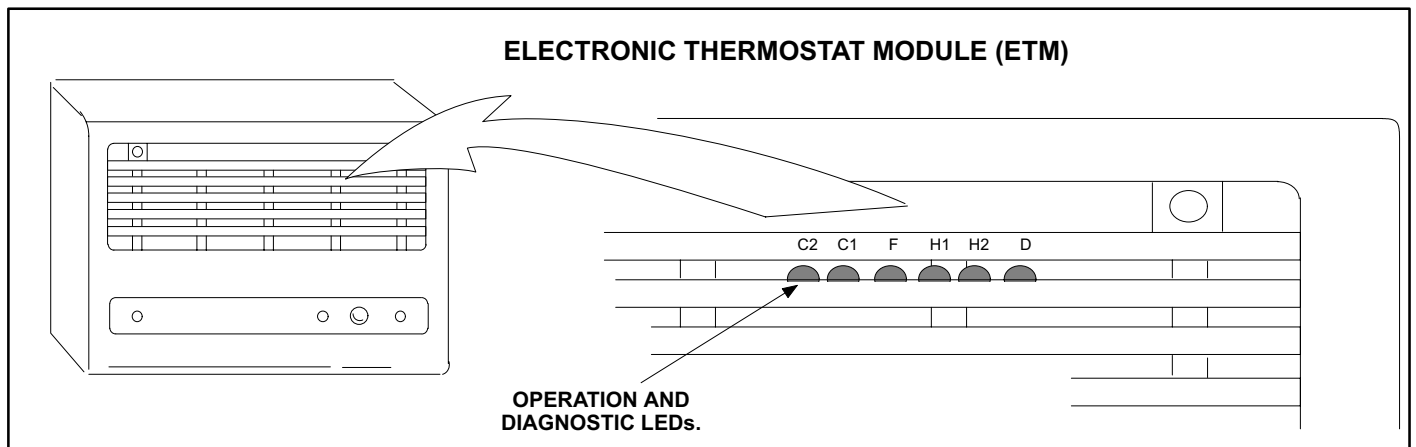
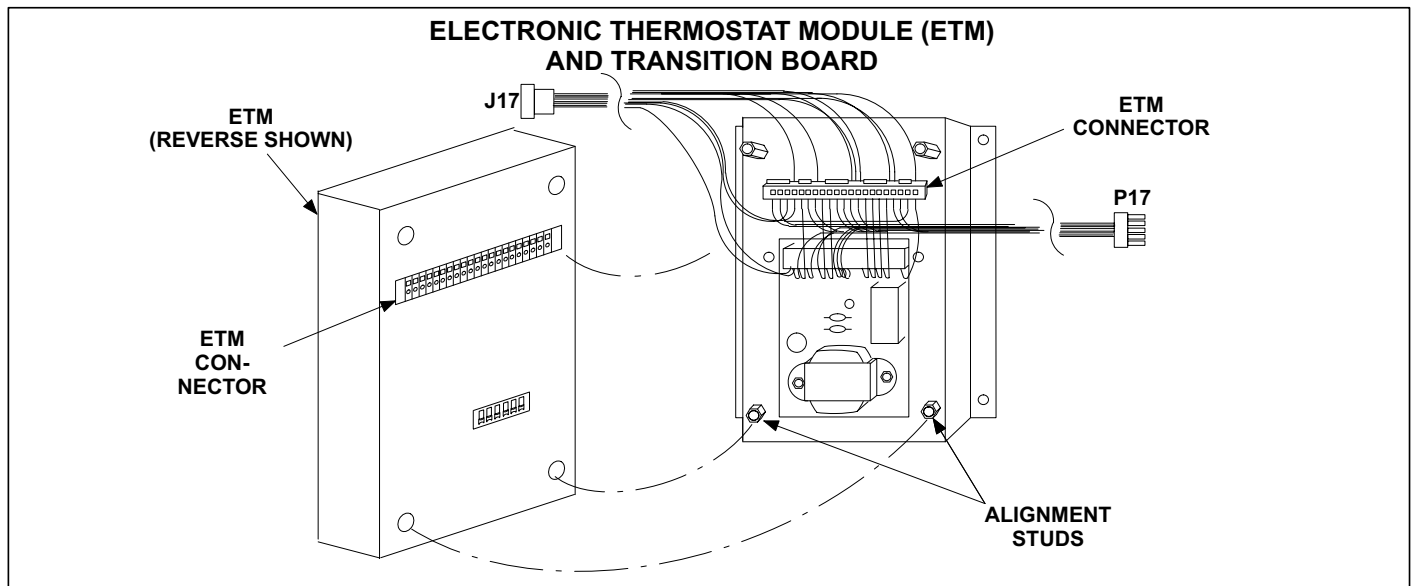

FIGURE 4
FIGURE 5
The electronic thermostat module (ETM) illustrated in figure 4 controls unit operation. It receives input from the executive processor (EP) or executive controller (EC), room air sensor A2, discharge air sensor RT1 and blower prove switch S52. The ETM controls the unit by combining information input from external sensors with information from internal programming parameters. The ETM and transition board are illustrated in figure 5. ETM is not field serviceable.